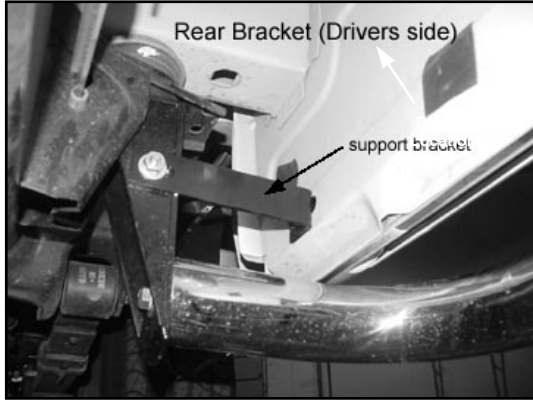
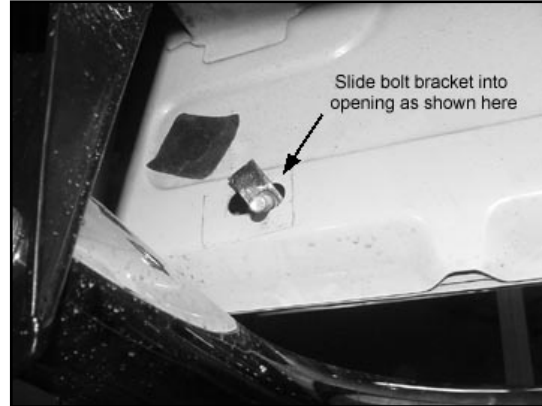

FIG. 2
FIG. 3
**Step Four:** Repeat this process using the long mounting brackets for the rear body mounts fig 2.
**Step Six:** Place the rear bolt plate through the body as shown in fig 3. Attach support bracket as shown in fig. 2 using supplied 3/8 hardware. Next attach front support brackets as shown in Fig. 1 using supplied 1/2" inch hardware on the top bolt and 3/8" hardware on the bottom bolt. NOTE: Drill a 1/2" hole on the cab mount housing to install the top of the Front Support Bracket.